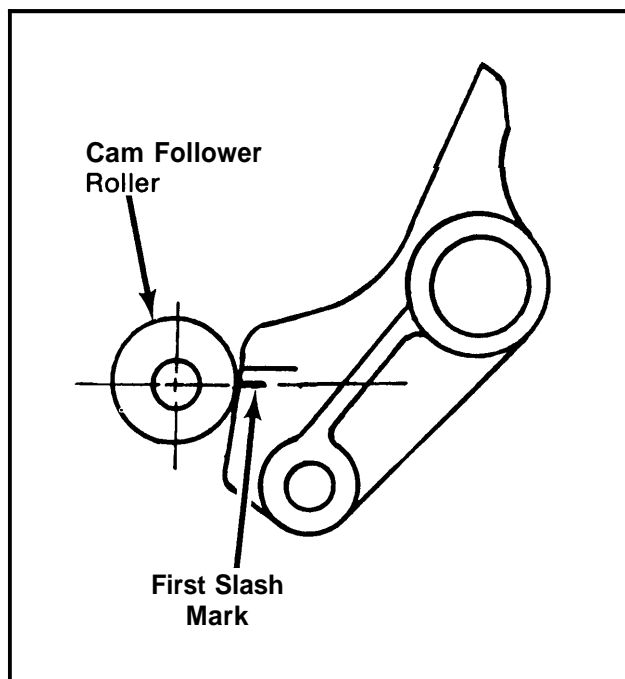

Figure 1. Throttle Cam Contacting Cam Follower
8. Adjust the idle stop screw until the first slash mark on the throttle cam is at the point of contact of the cam follower and centered on the roller. (Figure 1) Tighten the jam nut.